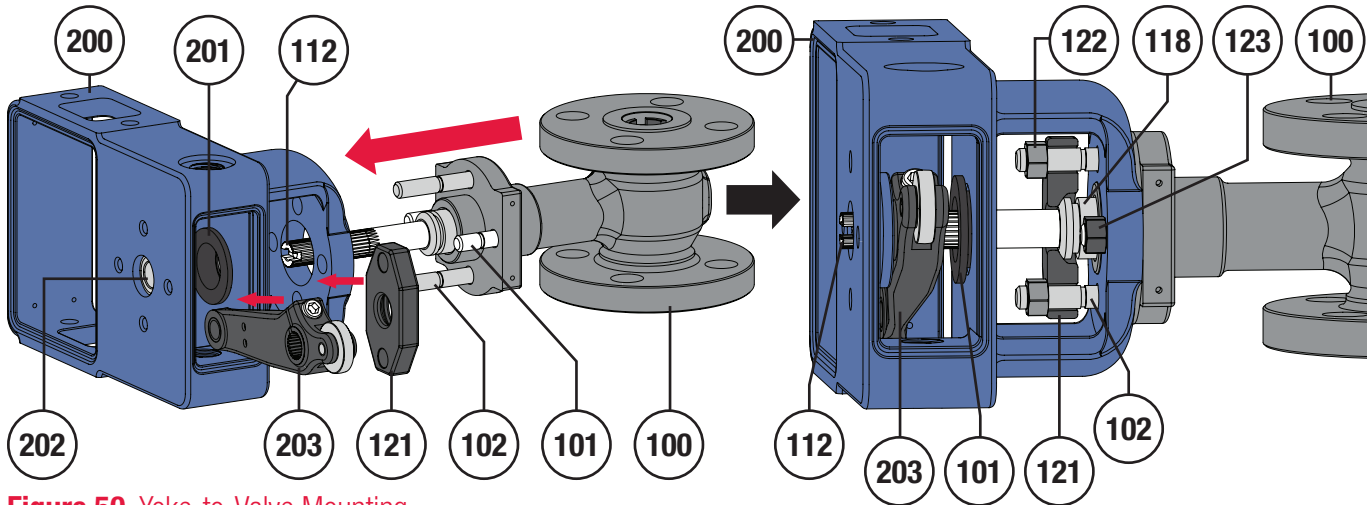
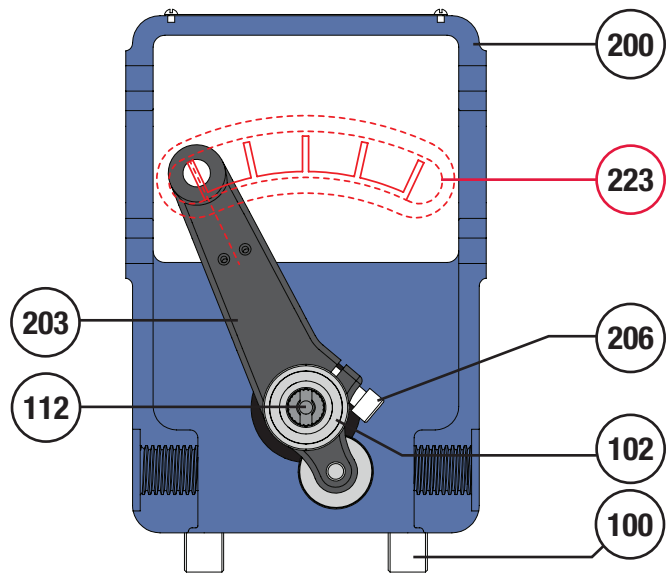

Figure 50 Yoke-to-Valve Mounting
Figure 51 Lever Position Example
- Close the valve. Ready the lever assembly (Keys 203 & 206) and packing flange (Key 121) for installation. **NOTE:** The lever and packing flange must be installed over the valve shaft (Key 112) as the valve shaft travels through the yoke (Key 200). Figure 50.
- 3 Mount the yoke (Key 200) to the valve as shown in Figure 50, installing the packing flange (Key 121) and lever (Key 203) as the yoke is mounted. Secure the yoke to the valve body (Key 100) by installing the mounting nuts (Key 123). **NOTE:** Orientate the lever on the shaft (Key 112) using any marks that might have been made during disassembly. If no alignment marks were made, it may be necessary to temporarily install the front cover (Key 223) to utilize the travel scale. With the valve in the closed position, the closed indicator line on the travel scale should run roughly between the 2 travel indicator mounting holes on the lever. Refer to Figure 51 and 54.